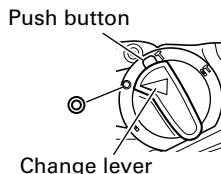

Fig. 13
- (1) Mount the bull point or cold chisel.
- (2) Press the push button and set the change lever to **◎** mark. (Fig. 13)